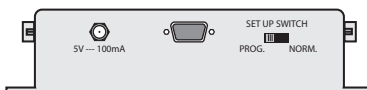

Figure 9.3 BSS4 Serial Port Expander — Set Up Switch
2. Move the **SET UP SWITCH** on the BSS4 to **PROG** (Figure 9.3).